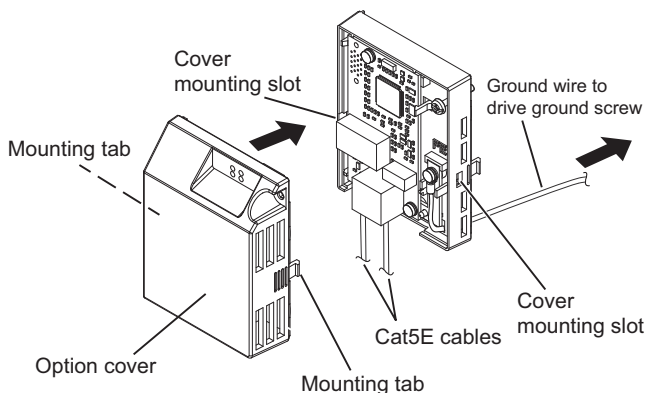

Figure 25 Attach the Option Cover
- 25.** For IP66/UL Type 4X enclosure models, attach the option cover by aligning the tabs with the mounting holes and seat the front cover into place (see Figure 25).